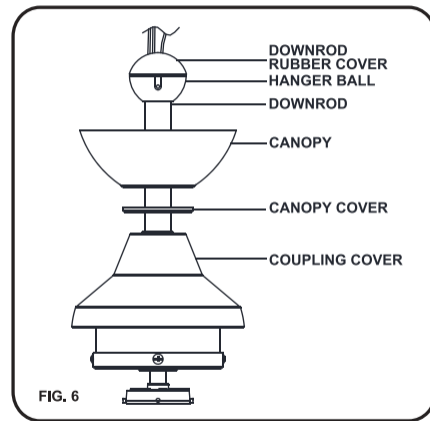

FIG. 6
Step 2. Now lift motor assembly into position and place hanger ball into hanger bracket. Rotate until the check groove has dropped into the registration slot and seats firmly. Rod should not rotate if this is done correctly. (Fig. 6)